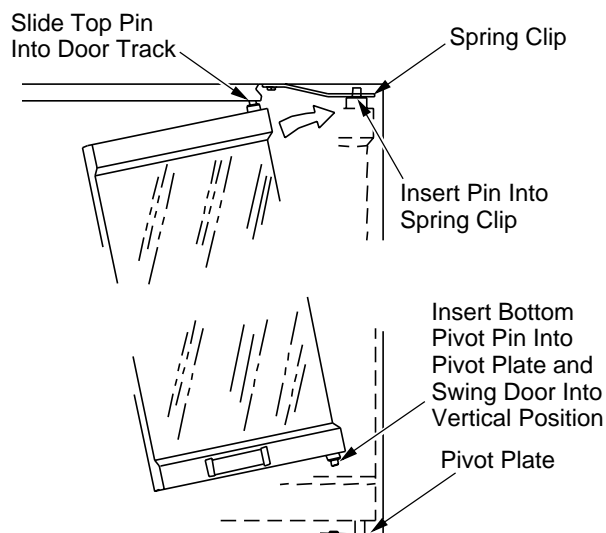

Figure 31 - Installing Optional Glass Door
2. With the handle facing the center of the firebox opening, insert the lower pivot pin on the glass door panel into the hole in pivot plate on the bottom edge of the fireplace opening (see Figure 31).
4. Tilt the door assembly fully vertical until the outer pivot pin snaps into the mounting hole in the upper spring clip (see Figure 31).